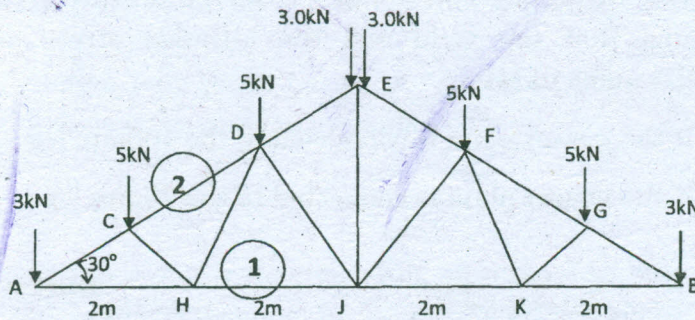

Fig. 4
- (b) A plate girder is used for a span of 22 m. It is subjected to UDL of 42 kN/m. Assuming 2500 mm × 8 mm web plate pairs of ISA $150 \times 150 \times 15$ mm angles and 400mm × 20mm flange plates, design the bearing stiffener at the support. (16)
15. (a) Design the members 1 and 2 in the roof truss shown in the Fig. 4 for the given loading. (16)